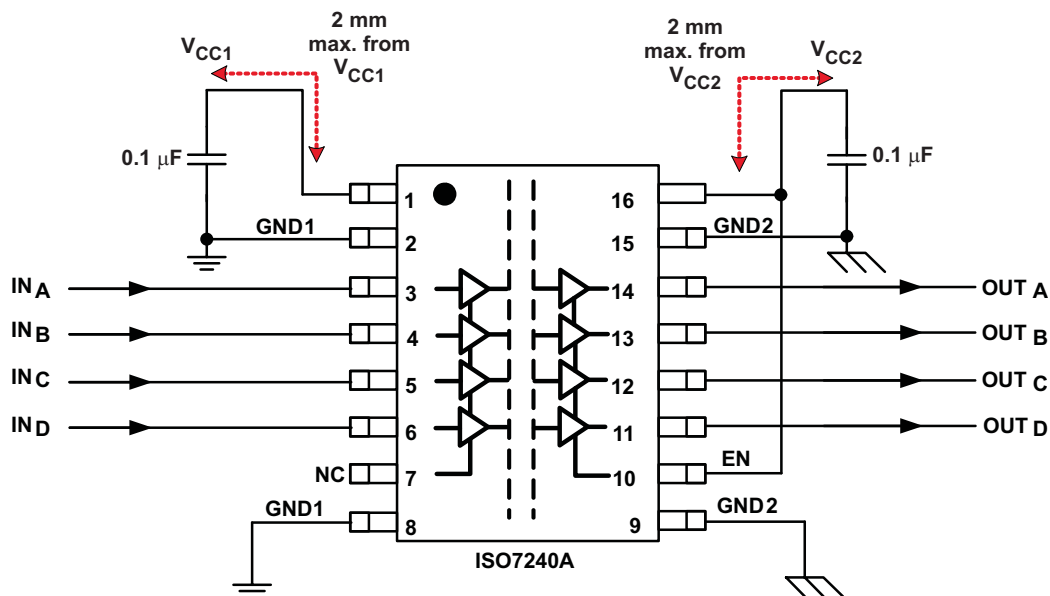

Figure 9. Typical ISO7240A Application Circuit
- Added information to the 1st Feature bullet to include CSA and IEC 60950-1 certification - Changed Figure 9 From: 20mm max.from V_{CCx} To: 2mm max. from V_{CCx}.	1 12